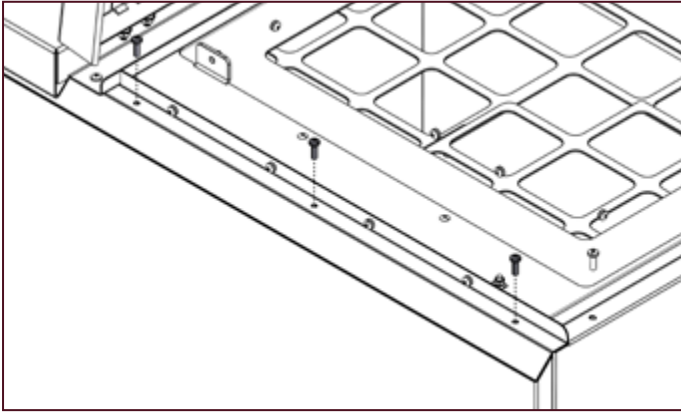

Figure 10-5: Removing the three screws from the side store
1. Undo and remove the three screws along the top edge of the left hand side panel of the side pellet store. Refer to Figure 10-5. Keep these screws for re-fitting later.